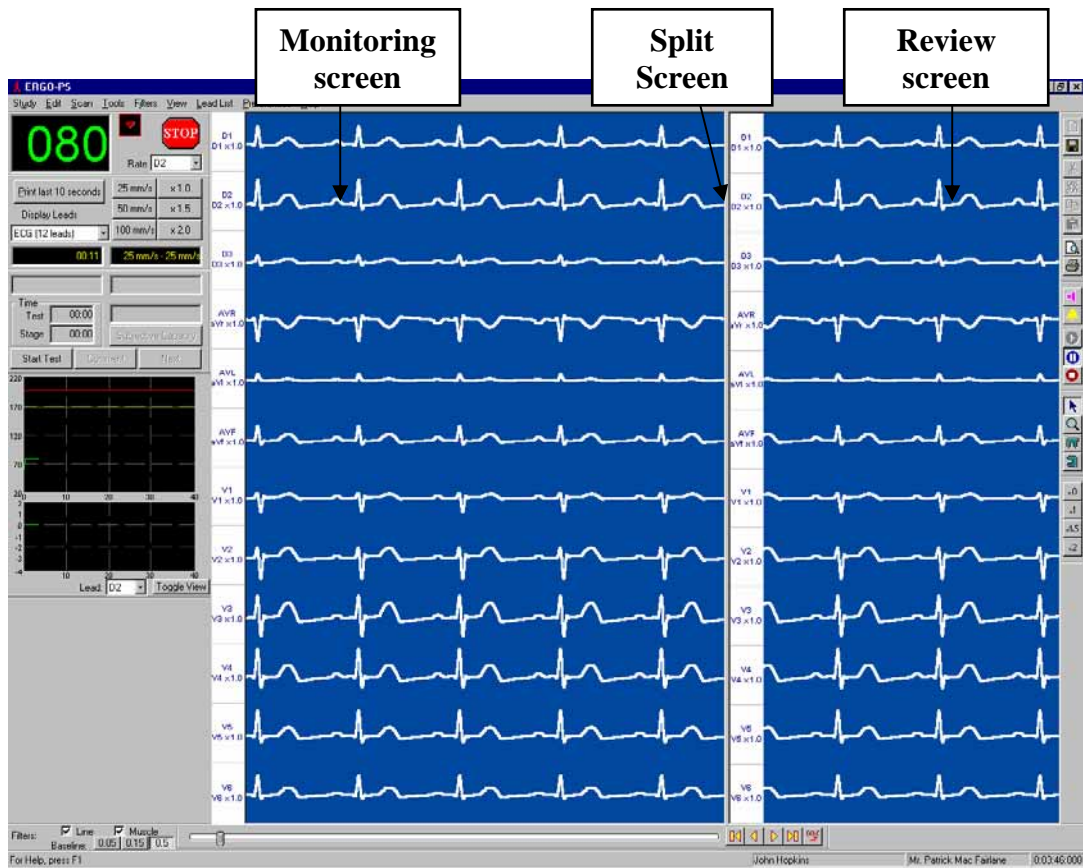

Figure 06
4. Once selected the patient and attendant you can access to the application by clicking on **OK** to open the monitoring screen that is shown in Figure 06. The OK button will be activated only when the patient and the attendant had been selected.